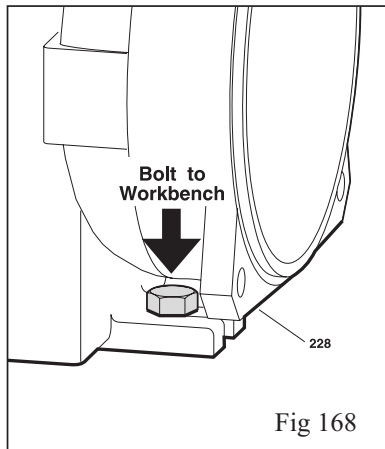

Fig. 168
18. Bolt or clamp bearing frame (228) to work bench (Fig. 168).